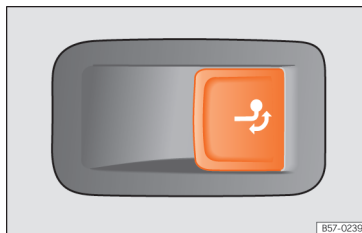

Fig. 181 Right side of the luggage compartment: button to unlock the tow hitch.
- Pull the >>> Fig. 181 button briefly. The tow hook unlocks electrically and automatically turns outwards. The button's control lamp flashes.
- Pull the >>> Fig. 181 button briefly. The tow hook unlocks electrically.
- Never press the button >>> Fig. 181 when there is a trailer hooked to the vehicle or when a carrier system or other accessories are mounted on the tow hook.